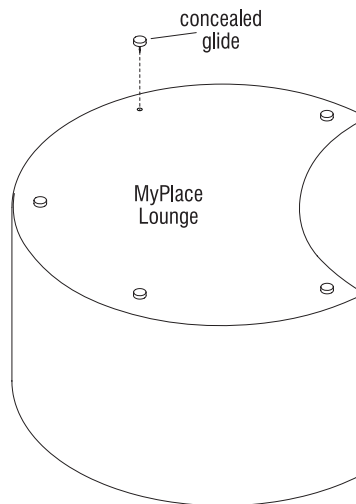

Figure 3
2. Using a flat blade screwdriver, pry up on the damaged glide to remove (Figure 3).
3. Replacing the glide may require moving it slightly aside the original placement to insure proper grip of the glide nail (Figure 3).
4. Using a hammer, gently tap the nail in glide, seating it completely (Figure 3).